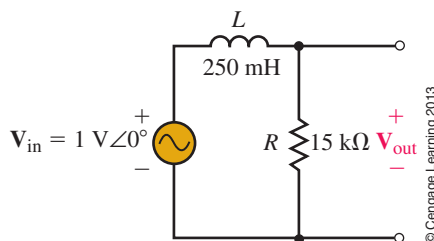

FIGURE 22–62
- Repeat Problem 51 for the circuit shown in Figure 22–53.
- Use PSpice to input the circuit of Figure 22–56. Use the Probe postprocessor to display the frequency response of voltage gain (in dBV) and phase shift of the circuit. Select a suitable range for the frequency sweep and use the cursors to determine the half-power frequencies and the bandwidth of the circuit.